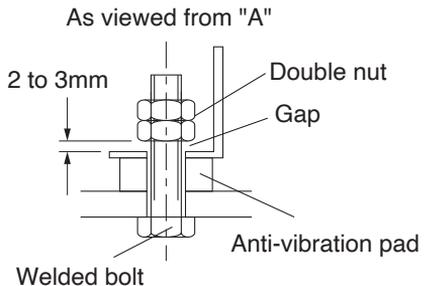

Fig.1
① CRM-S Series, CRMH-S Series, CRH Series
- c Leave a gap at the securing bolts to allow the anti-vibration pads to function properly (See Fig.1).